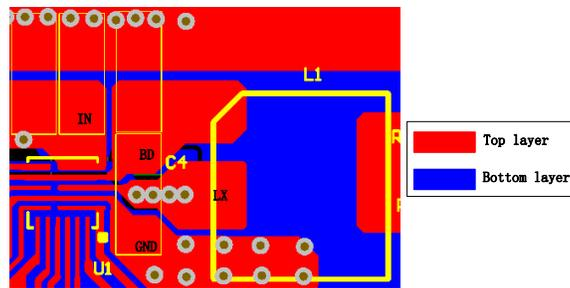

Figure 2. C_{BD} Layout Suggestion
3. Place C_{BD} close to the BD and GND pins. The loop area formed by C_{BD} and GND must be minimized. Refer to Figure 2 below for the recommended C_{BD} layout design.
6. Place the current sense resistor adjacent to the junction of the inductor and output capacitor. The traces from the sense connection points on the sense resistor to the device pins should be close to each other to minimize the loop area. Do not route the sense nets across high current paths. Refer to Figure 2 below for the recommended PCB layout design.